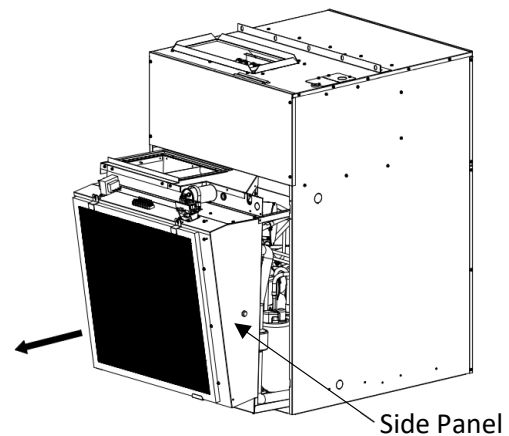

FIGURE 46 - Slide Out Air Conditioner Module
- 4) Slide-out air conditioner module as shown in Figure 46- Slide Out Air Conditioner Module.